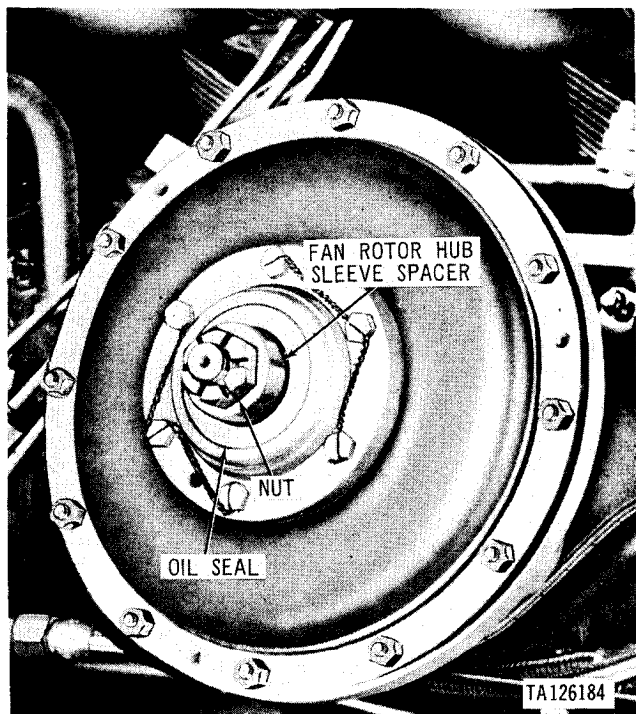

Figure 3-336. Front fan drive housing fan rotor hub sleeve spacer installed for leakage test.
a. Install a fan rotor hub sleeve spacer part number 10882651 (fig. 3-336) on each fan drive vertical drive shaft to prevent oil seepage at fan drive oil seals while operating engines. Secure the sleeve spacer to each drive shaft with the same nut used to secure the cooling fan. Start engine and check for fuel leaks. If leaks are evident, loosen the tube fittings and retighten.
(4) Remove engine cooling fan vanes and cooling fans (para 3-6). Install two fan rotor hub sleeve spacers part number 10882651 (fig. 3-336).